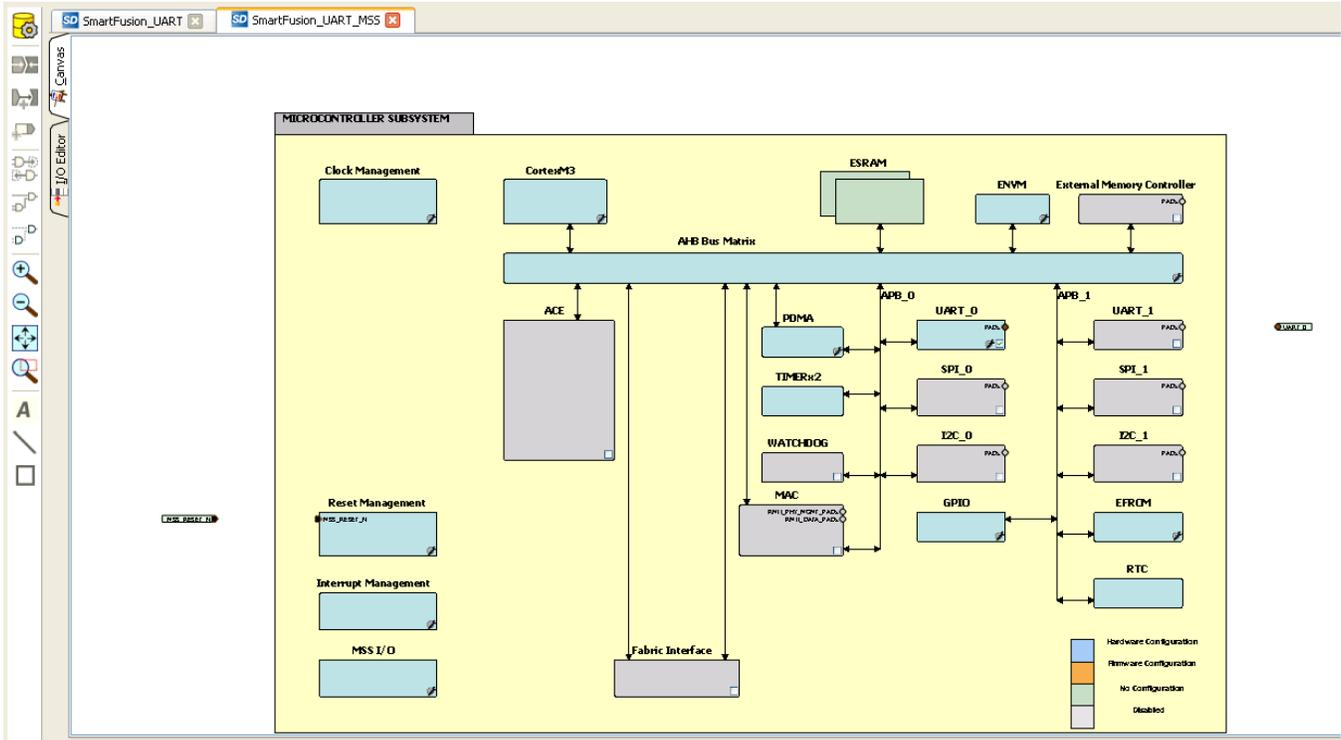

Figure 7 - Used MSS Peripherals
3. After disabling the peripherals, the SmartDesign canvas looks similar to Figure 7 . .